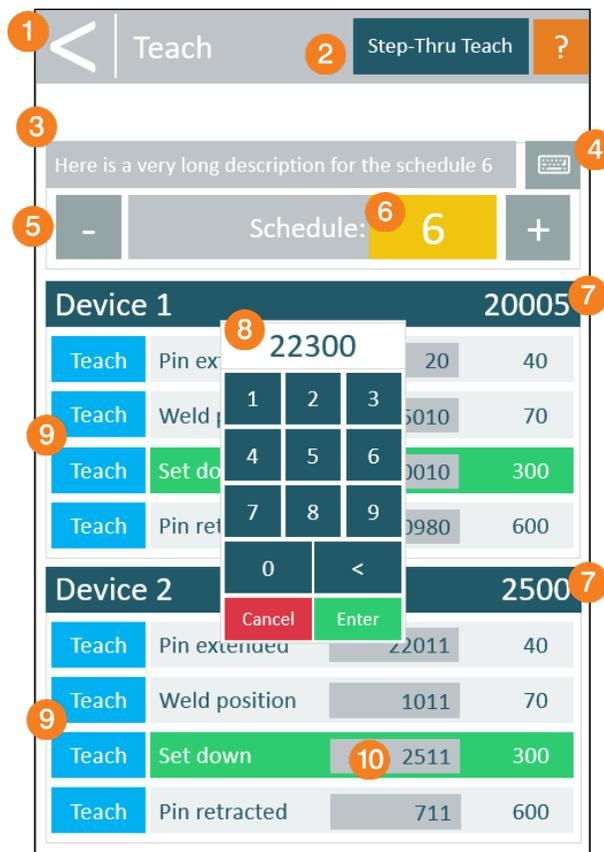
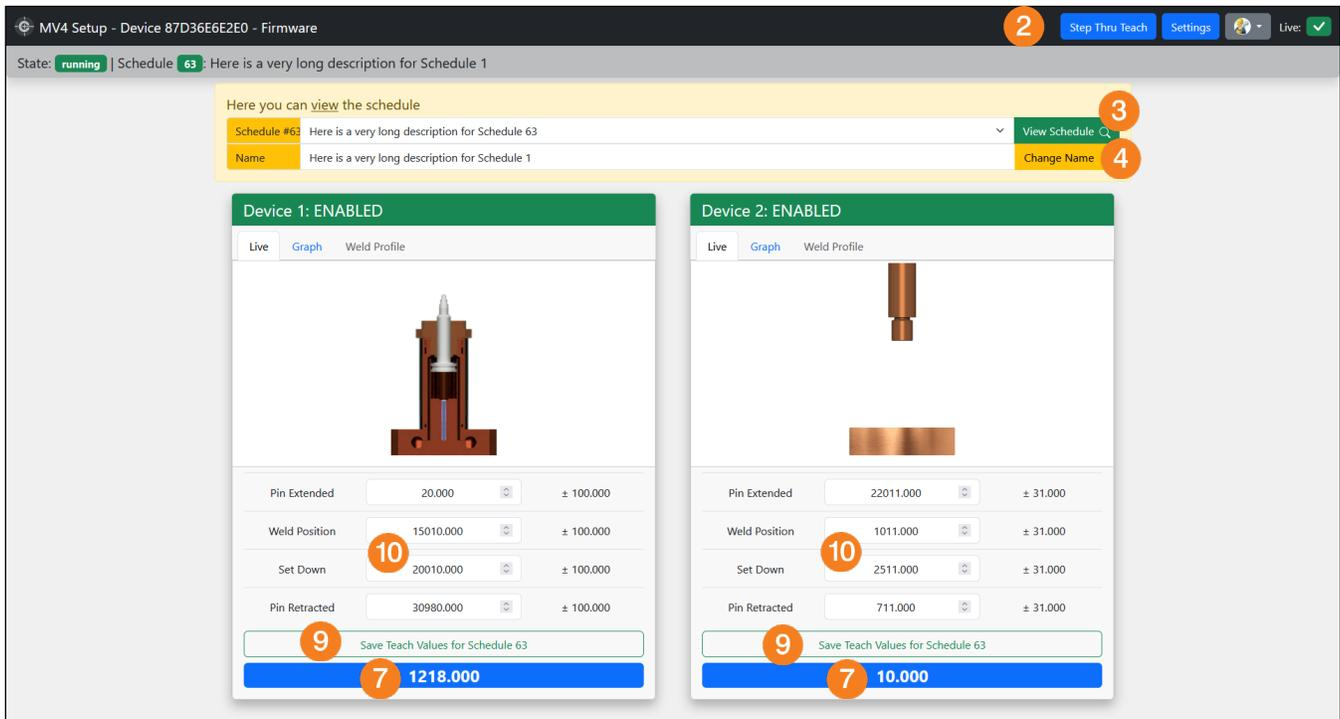

Figure 13 – *Teach* Screen (on CLCS HMI)
Figure 14 – Teach Screen (on PC Web Server)
The **Teach** screen (see Figure 13 for CLCS HMI or Figure 14 for PC Web Server) allows the user to teach the schedules and positions for the devices connected to the MicroView 4.0. The access to this screen is protected by the Level 1 Password (User Level). (See *Password Screen* section on page 11 as reference).
- On **PC Web Server**, go to: *Run Screen* > "Settings" button > Choose an icon and introduce the corresponding password > *User Settings Screen* > "Teach" button > *Teach Screen* > **Change Name** button (see Figure 14 on page 16).